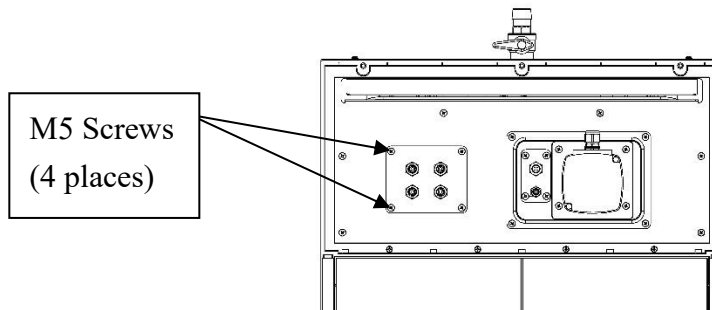

Figure 10 – Top View of the SCA with the Top Cover Removed
- e. Remove the four M5 screws holding the Heater Assembly and ground wire (See **Figure 10**).